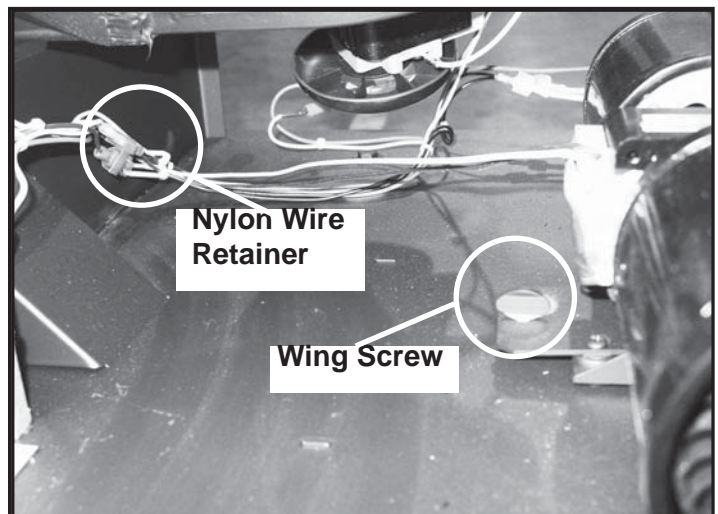
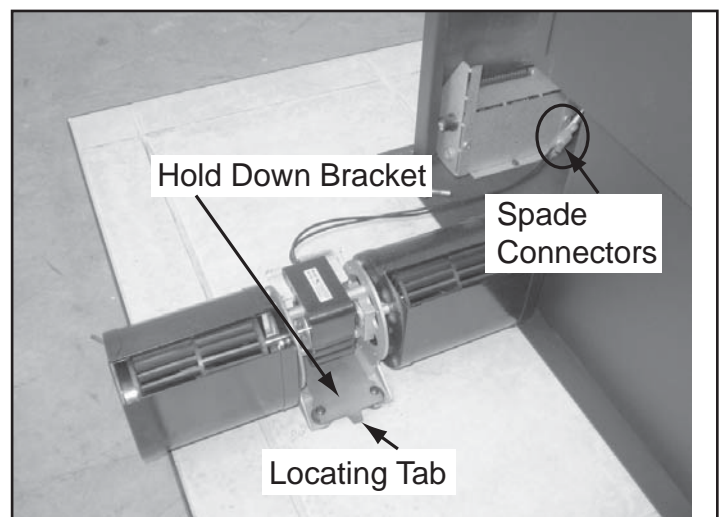

Figure 21.3
Figure 21.4
7. Remove the wing bolt and move the blower and hold-down bracket toward the back of the appliance to release the locating tab. **Figure 21.3.** Pull the blower out from under the convection plenum. Slide the blower out of the appliance. Disconnect the wires from the spade connectors at this time. **Figure 21.4.**
8. Return wires to nylon wire retainer. Make sure wires do not contact any moving parts or touch any surfaces that may become hot **Figure 21.4.**